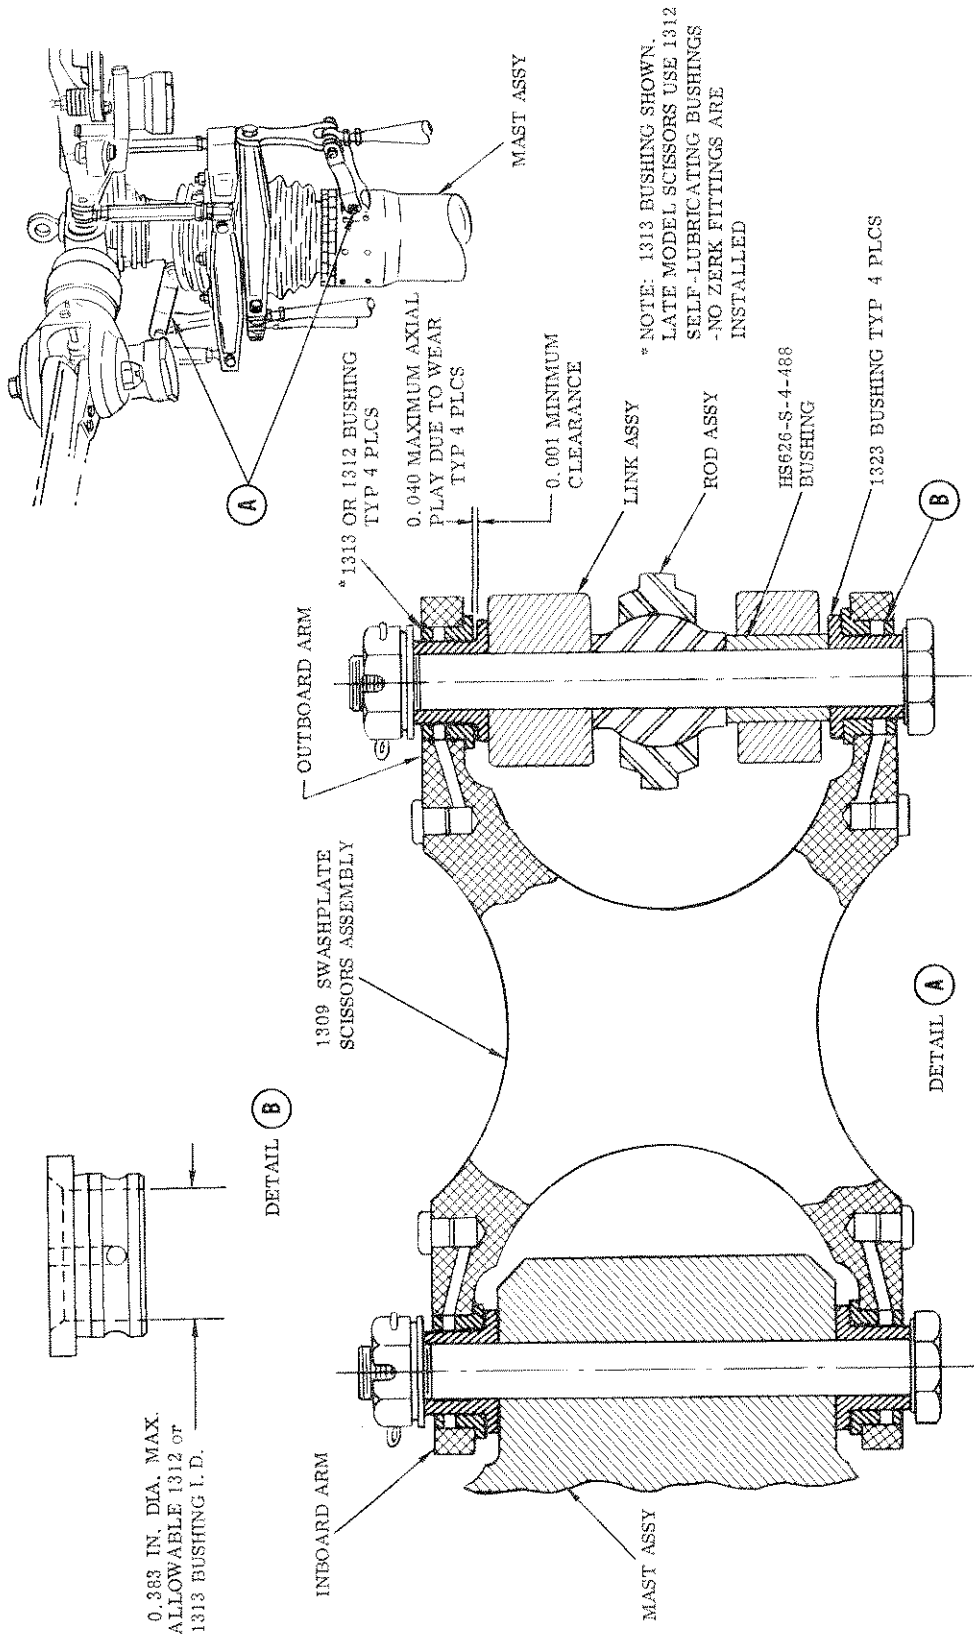

FIGURE 3. WEAR TOLERANCE-UPPER AND LOWER SWASHPLATE SCISSORS
g. Inspect bushings on arms of upper and lower swashplate scissors. Maximum allowable inside diameter of 1312 or 1313 bushing is 0.383 inch; maximum allowable axial play (due to wear on flanges of 1312 or 1313 bushings and 1323 bushings) is 0.040 inch. (See Detail B, Figure 3) After reassembly, use feeler gage for minimum 0.001 inch clearance between bushing flanges to provide free oscillating movement of scissors.